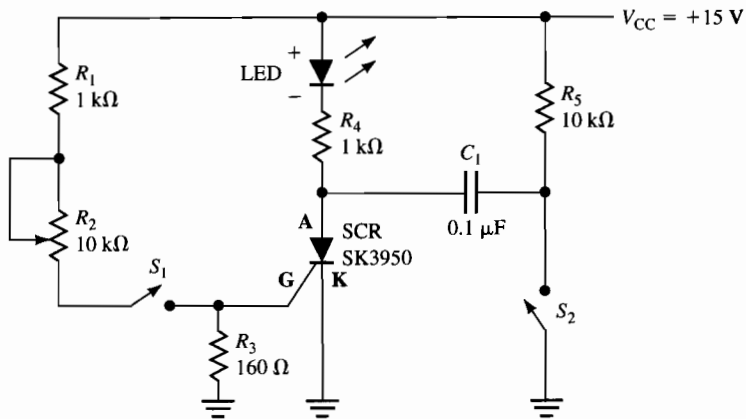

Figure 36-4
6. As you have seen, the only way to turn off an SCR is to drop the conduction to a value below the holding current. A circuit that can do this for dc operation is shown in Figure 36-4. In this circuit, the capacitor is charged to approximately V_{CC} . When S_2 is momentarily pressed, the capacitor is connected in reverse across the SCR, causing the SCR to drop out of conduction. This is called *capacitor commutation*. Add the commutation circuit to the SCR circuit.
4. What symptom would you expect to see if the SCR in the circuit of Figure 36-4 had an anode-to-cathode short?